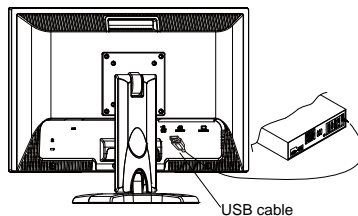

Figure1-7
2. Connect the USB cable to LCD Monitor. (See Fig. 1-7)